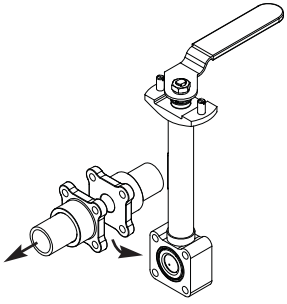

Figure 1: 'Slide-out' method
- Method 1: 'Slide-out' method: (see Figure 1). Extract all of the body bolts and slide the body complete from the two body connectors. Care must be taken not to damage the connector sealing faces.